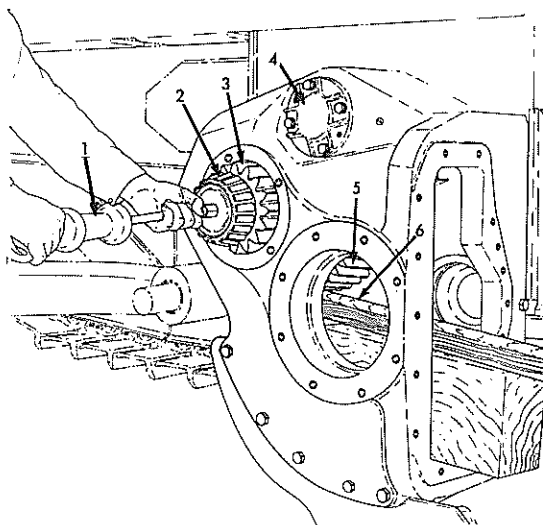

Fig. 8 Removing Final Drive Intermediate Pinion (T-41428)
bearing cage and separator retainer, Fig. 1 (60). Pusher screws are not necessary for removal of this cage. Use slide hammer puller as shown in Fig. 8.
3. Hold or block intermediate gear Fig. 8 (5); remove intermediate shaft as shown in Fig. 8. Remove intermediate gear (5) from housing.